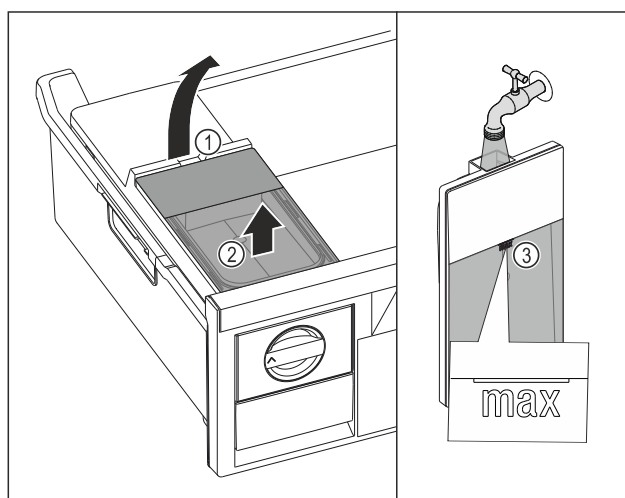

Fig. 128
- Lift the water tank at the recess Fig. 128 (1).
- Remove the water tank by lifting it upwards. Fig. 128 (2)
- Fill the water tank with drinking water up to the mark Fig. 128 (3).